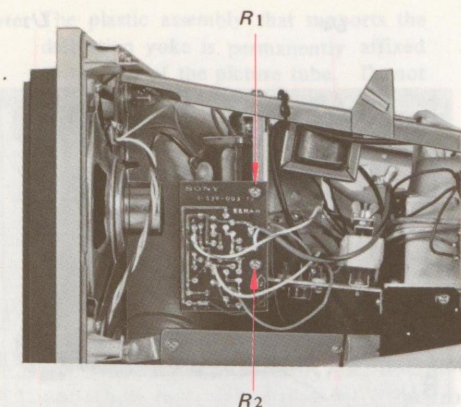

Fig. 2-24. A-board removal
1. Remove the two screws labeled R1-2 in Fig. 2-24.